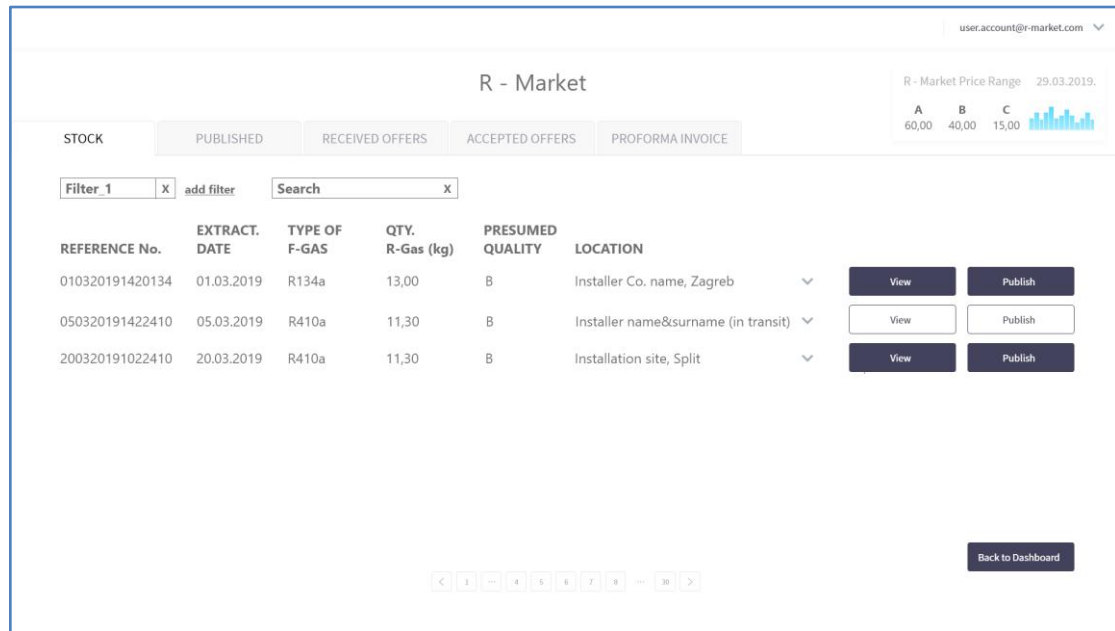

Figure 2: User interaction and design for "Stock" tab.
After loading of the page, price range for the first item in the list (in our case for R134a) according to quality grade (A/B/C), is depicted in the upper right side of screen. The displayed information about price range changes depending on the item that has click-On state. Hence, if Installer Co. admin clicks on R410a gas or any corresponding information in that items row then price range will be featured for R410a. In addition, hyperlink "View" is available for each item and is served as a Call-To-Action (CTA) asset (see Figure 2).
The Installer Co. admin selects the first (1st) option from the five (5) options / functionalities available to manage R-Gas on stock. A template of user interaction and design for R-Market tab with "Stock" option enabled, is depicted in **Figure 2**:
Furthermore, additional details for the R-Gas stock location are available via "View". Basic info for either company location, installation site of the units or installer's identification are displayed in the "Location" column of Stock tab. Hence, the kind of extra material depend on the format of notes that are initially found in the "Location" table (e.g., see Figures 2 & 3/4: Location 1: Installer Co. name, City → View → Installer Co. full address, Location 3: Installation site, City → View → Customer Co. name + full address, etc.).